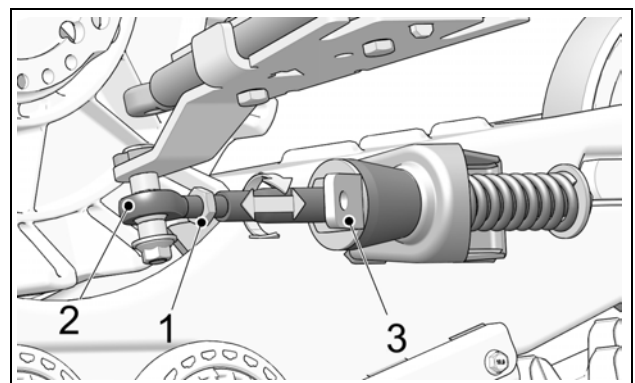

Figure 6
- Loosen jam nut (1). Adjust length of rod end (2) by rotating the steering limiter support plate on (3) the stabilizing arm. Use a 30 mm [1 3/16 in] wrench to rotate support plate to obtain a perfectly centered bubble in the level. Refer to Figure 6.
**NOTE:** The stabilizing arms on front Track Systems incorporate a steering limiter support plate (3) which is bent. This plate should be positioned inwards, towards the vehicle.